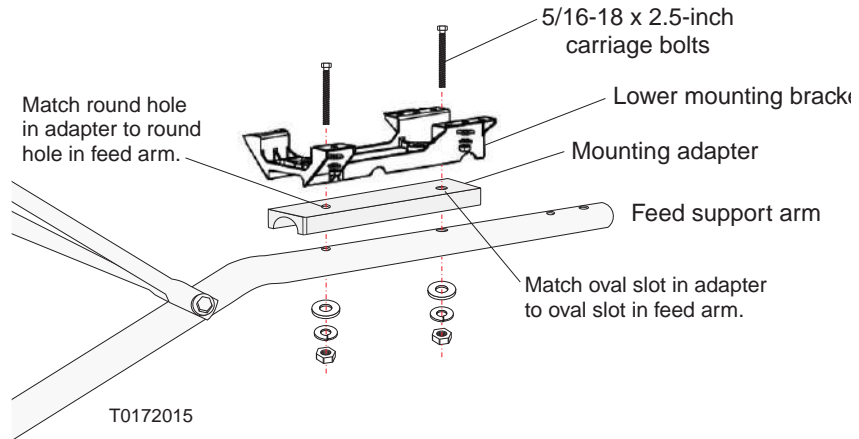

Figure 32: Attaching the radio assembly to the feed support arm
1. Position the lower mounting bracket and mounting adapter on the feed support arm, with the bolt holes aligned, as shown in Figure 32.
There are four holes on the top surface of the feed support arm. Two of these holes are oval slots. Use the round hole and oval slot *closest to the reflector* to mount the radio. (See Figure 32.)